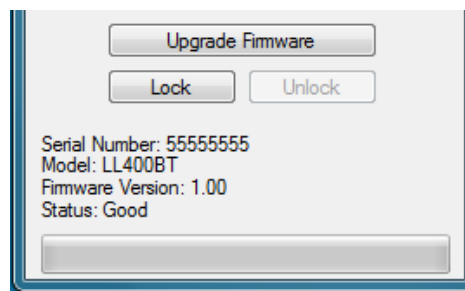

Figure 2.8.1
Step 1: Click the 'Upgrade Firmware' button in the 'Status' window as shown in figure 2.8.1. A browsing window opens.